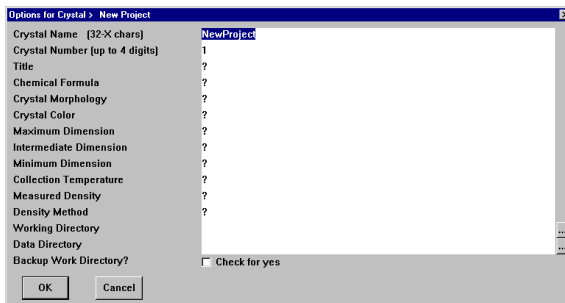

Figure 4-10. New project options window after entering information
- Click Crystal > New Project to start a new project. A new project options window appears (Figure 4-10).